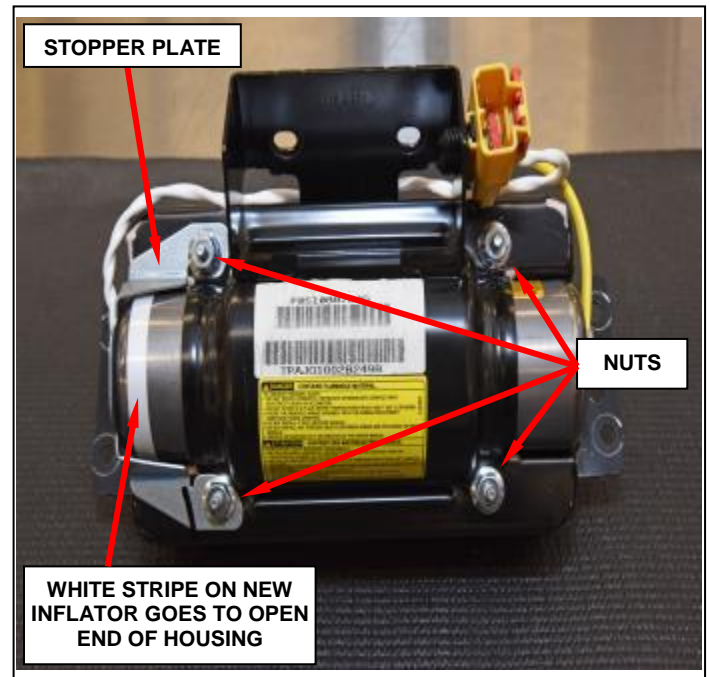

Figure 65 – Stopper Plate and Nuts
o. Position the stopper plate to the airbag housing (Figure 65).
p. Install the four **NEW** mounting nuts to the airbag housing and tighten to 53 in. lbs. (6 N·m) (Figure 65).